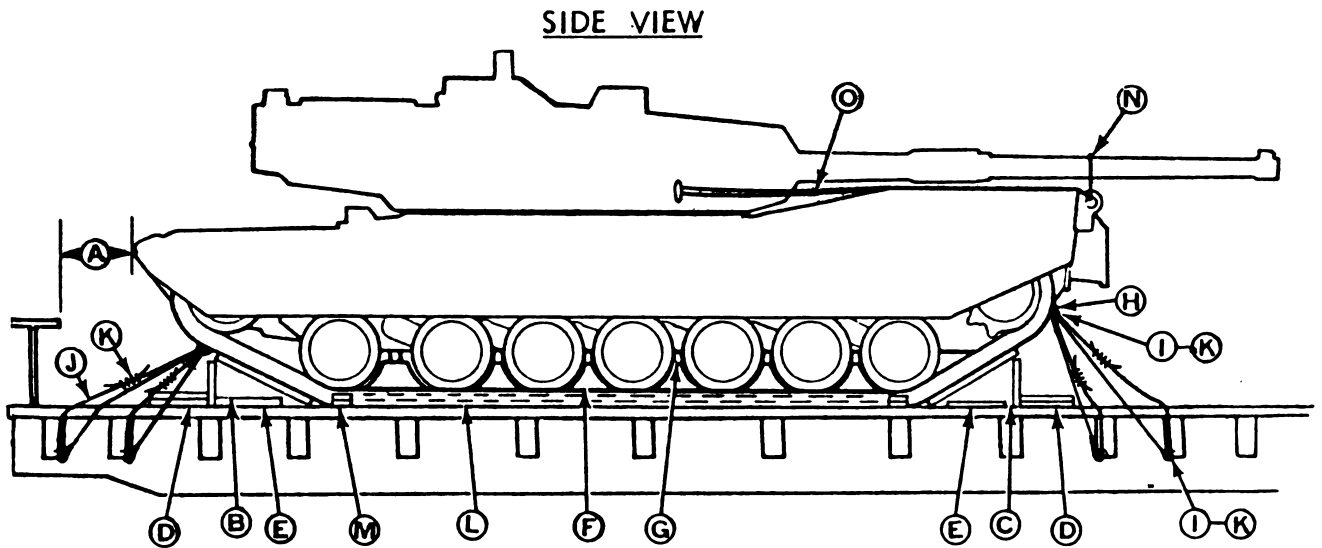

Figure 7-4. Blocking and tiedown for M1-series tank on general-purpose flatcar (side view).
c. Loads shown in figures 7-4 and 7-5 are based on a flatcar that is 10 feet 4 inches wide, minimum.
d. Bill of materials for blocking and tiedown of the M60-series tanks on the flatcar is shown in table 7-6. Blocking and tiedown (figs 7-4 and 7-5) are compatible with standard loading practices and provide for adequate restraint against the forces encountered during movements at normal speeds. Blocking details are described in figure 7-6. Application of materials for loading and securing the vehicle on the flatcar is shown in table 7-7.
Table 7-6. Bill of Materials for Blocking and Tiedown of M1 on General-Purpose Flatcar (Figs 7-4 and 7-5)
Table 7-7. Application of Materials for Loading and Securing M1 General-Purpose Flatcar (Figs 7-4, 7-5, and 7-6)
- d. When the tank is loaded, it should be loaded in the center of the 54-foot DODX flatcar. Blocking and tiedowns are applied as shown in figures 7-4, 7-5, and 7-6.
e. Bill of materials for blocking and tiedown of one M1-series tank on a 54-foot DODX flatcar is shown in table 7-6. Blocking and tiedown shown in figures 7-4 and 7-5 are compatible with standard loading practices and provide for adequate restraint against the forces encountered during movements at normal speeds. Blocking details are described in figure 7-6. Application of materials for loading and securing the tanks on the flatcar is shown in table 7-7.
Controlled train service securement is reduced to chock blocks and tiedowns only. Movement under this method of securement is designed to provide prompt movement over short distances from military installations to portside for shiploading. The M1 series tanks can be loaded on a railcar of adequate weight capacity that is a minimum of 10 feet 4 inches wide. Blocking and tiedown requirements are reduced from those shown in figures 7-4 and 7-5. Only items B, C, J, K, and N of table 7-7 are applied to provide adequate restraint against forces encountered during movements on controlled train service.
Controlled train service is generally a short distance from an installation to an outport or training area and over rails owned or controlled by a single handling carrier. Under these conditions, the carrier will specify the safe speed a load can move with reduced restraints. The wood blocking method of restraint can be used for movement only when prior coordination and acceptance by the handling carrier railroad have been accomplished. Loading and placement of the M1-series tank on wood-decked flatcar are as shown in figures 7-4 and 7-5. Blocking is applied as shown in A, B, C,